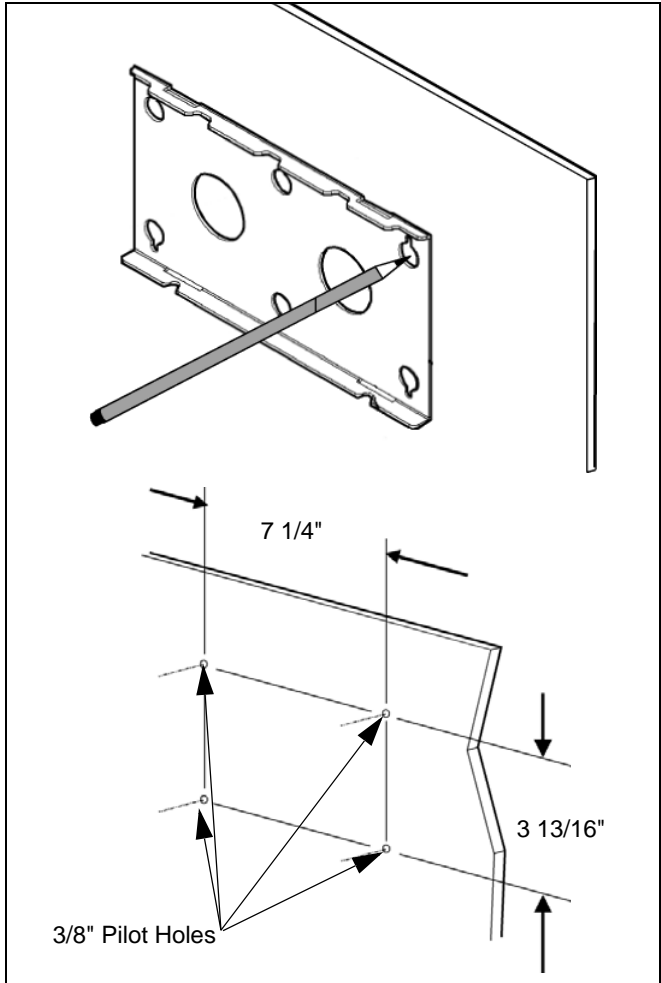

Figure 3: Mark and Drill Pilot Holes
5. Using the wall bracket (20) as a template, mark the location of the four corner mounting holes. (see figure 3)